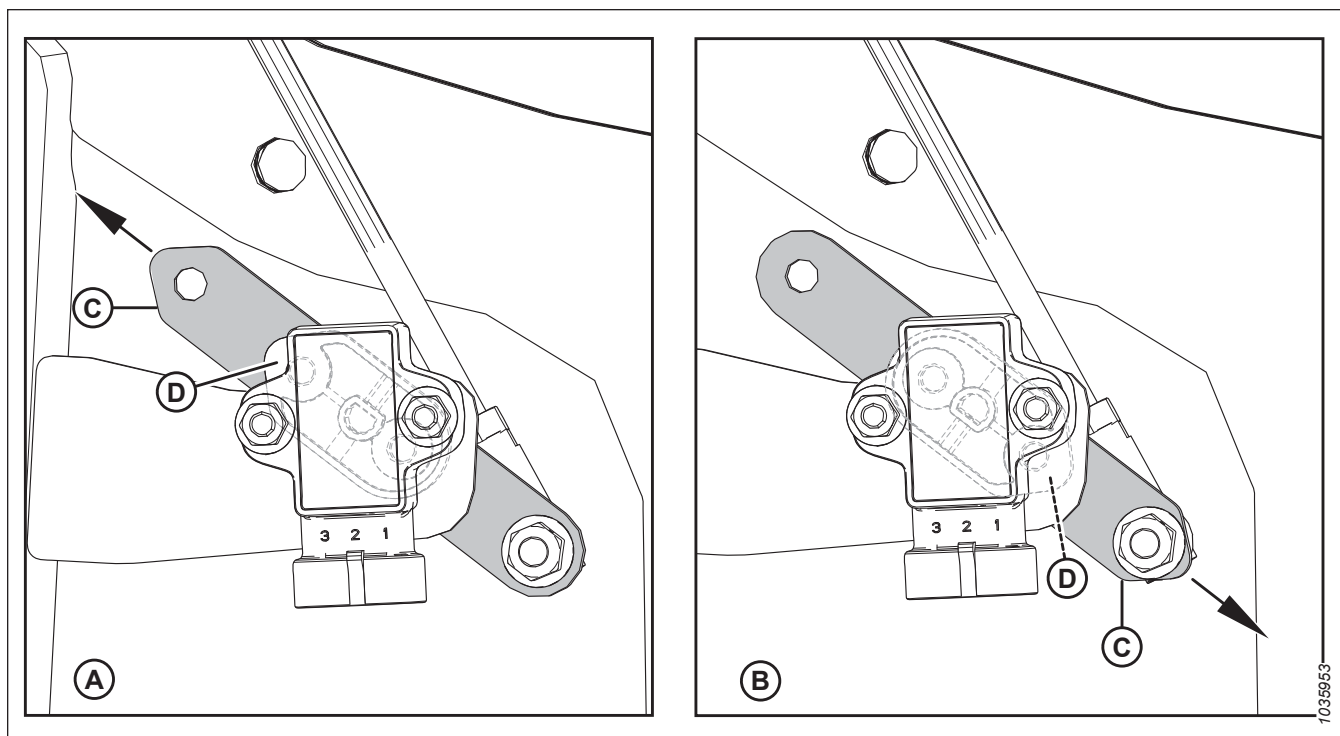

Figure 9.2: Sensor Arm/Pointer Configurations
- Check that sensor arm (C) and pointer (D) are configured properly for your machine, refer to Figure 9.2, page 418.